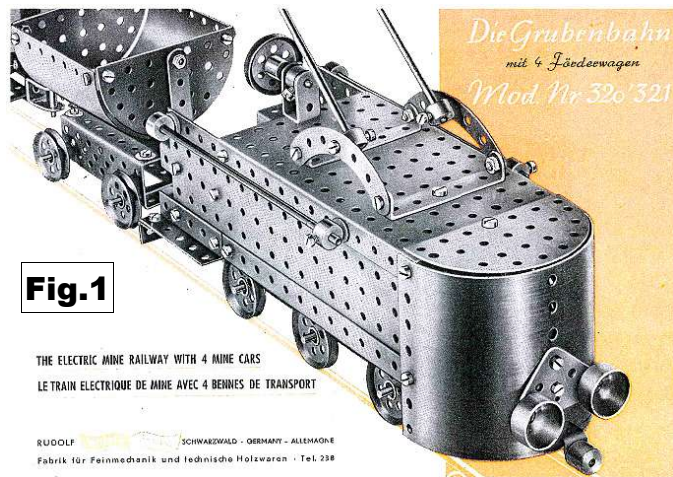
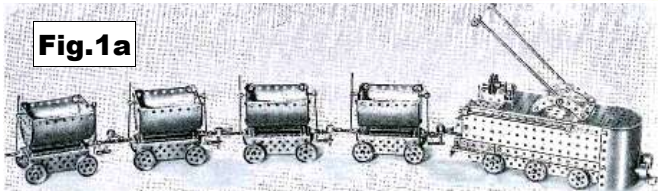

Fig.1
Fig.1a
The SETS 2 were produced: one, No.320/321, with parts to build a Mine Locomotive (320) towing 4 identical Wagons (321); the other, 406/407, a Tram (406) & Trailer (407). Figs.1 & 2 are the models as shown on the lid labels & manual covers; Fig.1a the complete Mine Train.